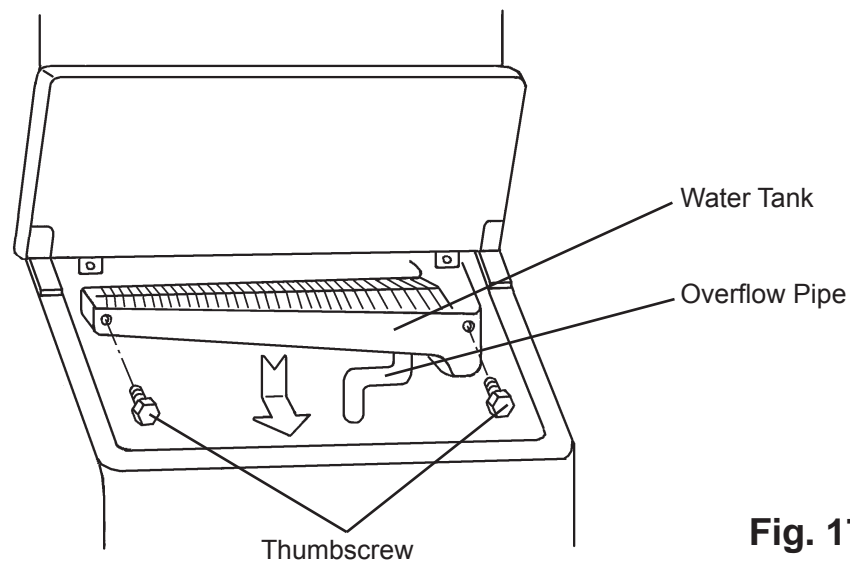

Fig. 17
- 4) Remove the two thumbscrews. Pull the water tank slightly toward you and push it down. Be careful to avoid breakage when handling the parts. See Fig. 17.
- 14) Disconnect the overflow pipe. Next, remove the water tank by removing the two thumbscrews and pulling the tank towards you slightly and pushing it down. Be careful to avoid breakage when handling the parts. See Fig. 17.